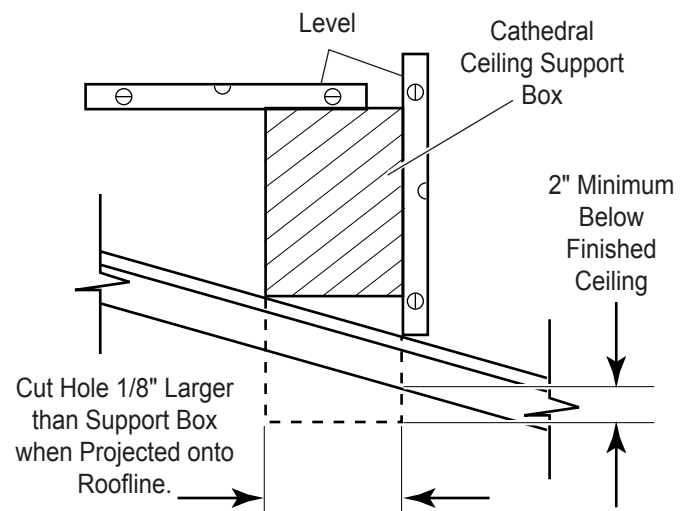

Figure 30 - Cathedral Ceiling Support Box Installation
2. Cut the hole  $\frac{1}{8}$ " larger than the support box outline. See Figure 30.
3. Lower the support box through the hole in the roof until the bottom of the box extends at least 2" ( mm) below the ceiling. See Figure 30. Align the support box vertically and horizontally using a level. Temporarily tack the support box in place through the inside walls and into the roof sheathing.